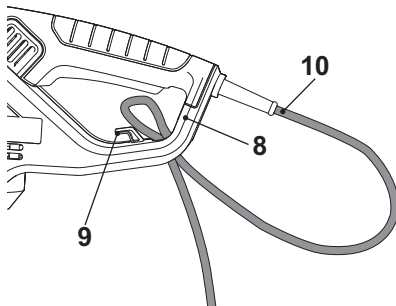

Fig. 2
1. Double the power cord (10) back, about 60 cm from the power guard and lead the loop through the hole of the rear safeguard (8) (Fig. 2).